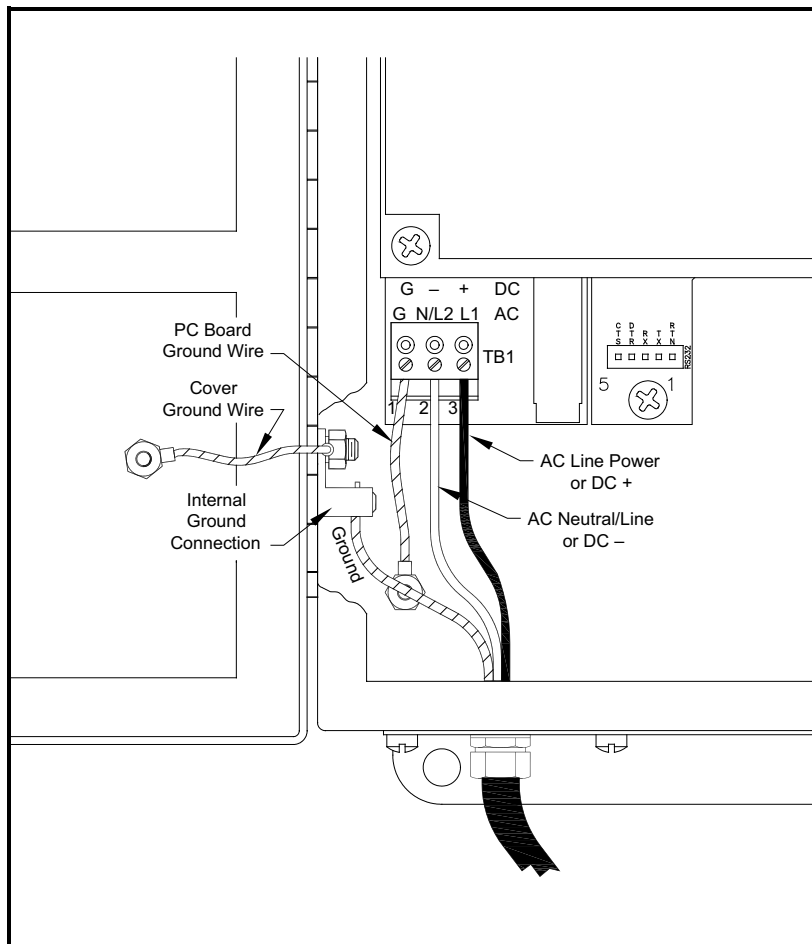

Figure 3: Wiring the Line Power
Refer to Figure 3 on page 7 or Figure 10 on page 18 to locate terminal block **TBI** and connect the line power as follows:
3. Connect the ground lead to the internal ground connection located on the side panel of the enclosure (see Figure 3 below).
4. Connect the neutral or line lead (or the negative – DC power lead) to **TB1-2** and the line power lead (or the positive + DC power lead) to **TB1-3** as shown in Figure 3 below.